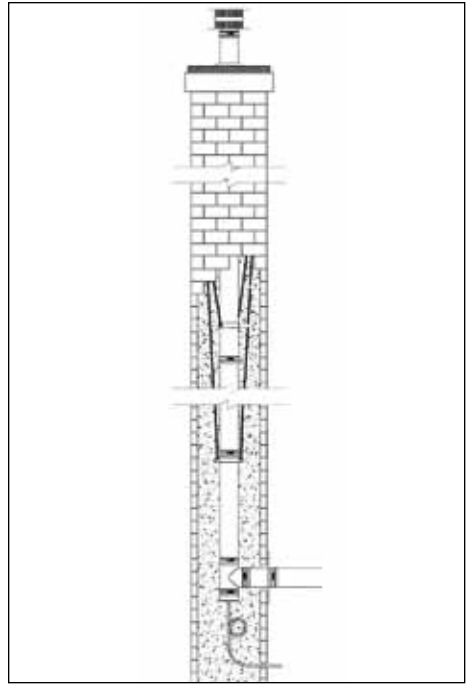
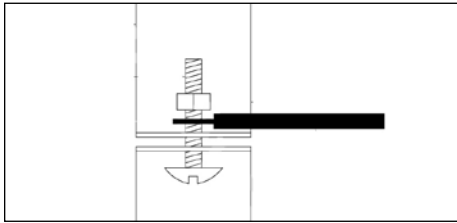

Figure 7
Figure 9
to **Figure 7** for a typical installation. It is critical to use enough clamps and proper bracing to safely support the weight of the entire vertical stack. DuraVent, also recommends the use of a FasNSeal drain fitting at the base of the vent. In all situations, it is important to make sure that all workmanship meets and/or exceeds jurisdictional requirements. Contact the local building inspector regarding codes or regulations that might be applicable to your installation. These instructions are based on an installation through a typical masonry chimney. Consult the DuraVent Engineering Department, at 800-835-4429 or via email at engineering@duravent.com, if your installation has any significant variations.
2. Install a FasNSeal support clamp at the base of the vent stack. The first support clamp should be located directly below the upper joint on the bottom most straight vent length (Figure 7). Refer to **Figure 9** for the proper method of securing tension wires to the FasNSeal support clamp. Do not fasten the cable between the clamp half-shells. This will prevent the clamp from gripping the vent stack properly